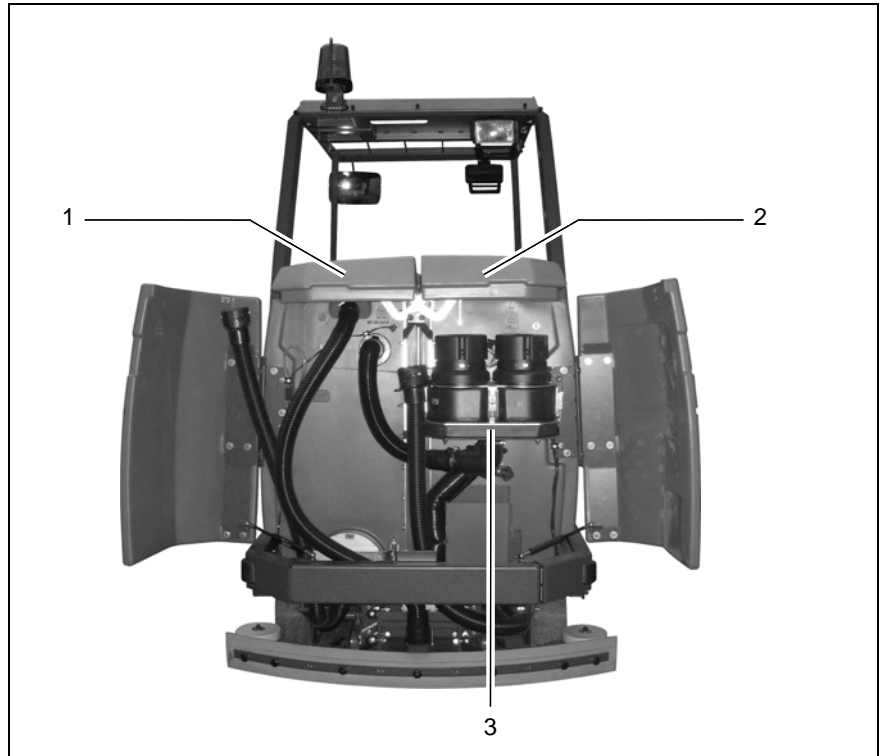

Fig. 13
3.1.3 Suction turbines (suction) (Fig. 13/3)
3.1.4 Solution tank (Fig. 13/2)
3.1.5 Recovery tank (Fig. 13/1)